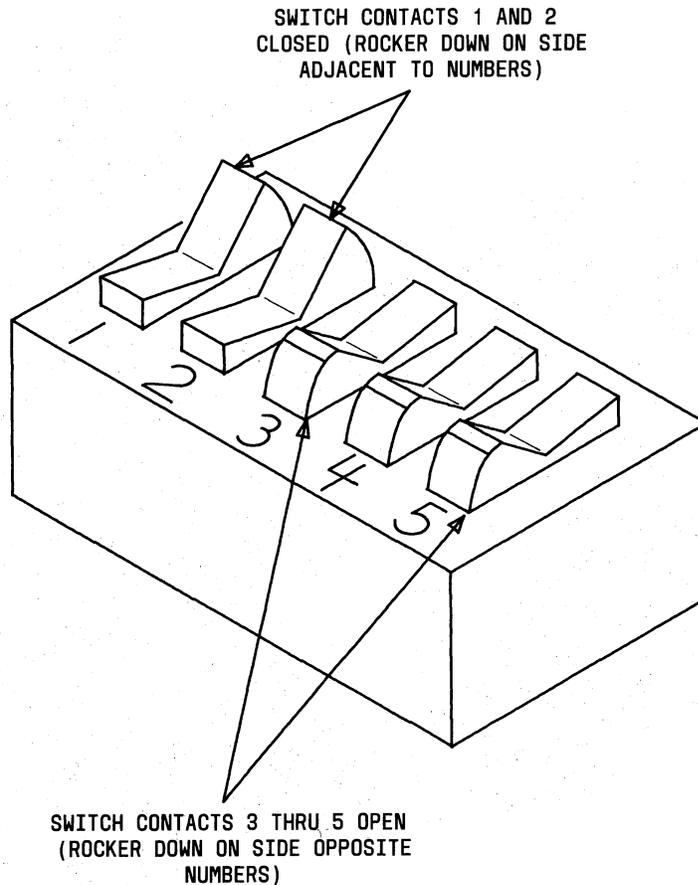

Fig. 2—Details of Option Switch Assembly
3.02 The options are installed by setting the positions of individual switches on four multiple-section switch assemblies. These switches are set in accordance with Table A. Refer to Fig. 2 for a detailed view of the multiple-section option switch assembly.